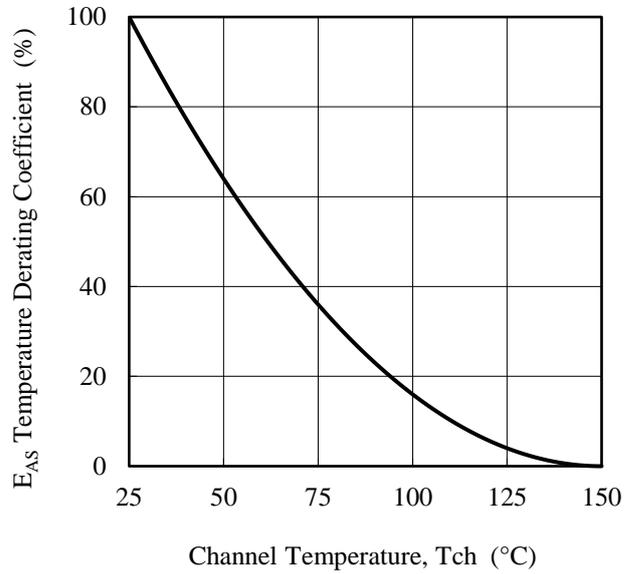

Figure 3-2. Avalanche Energy Derating Coefficient Curve
(2) Refer to Figure 3-2. Avalanche Energy Derating Coefficient Curve